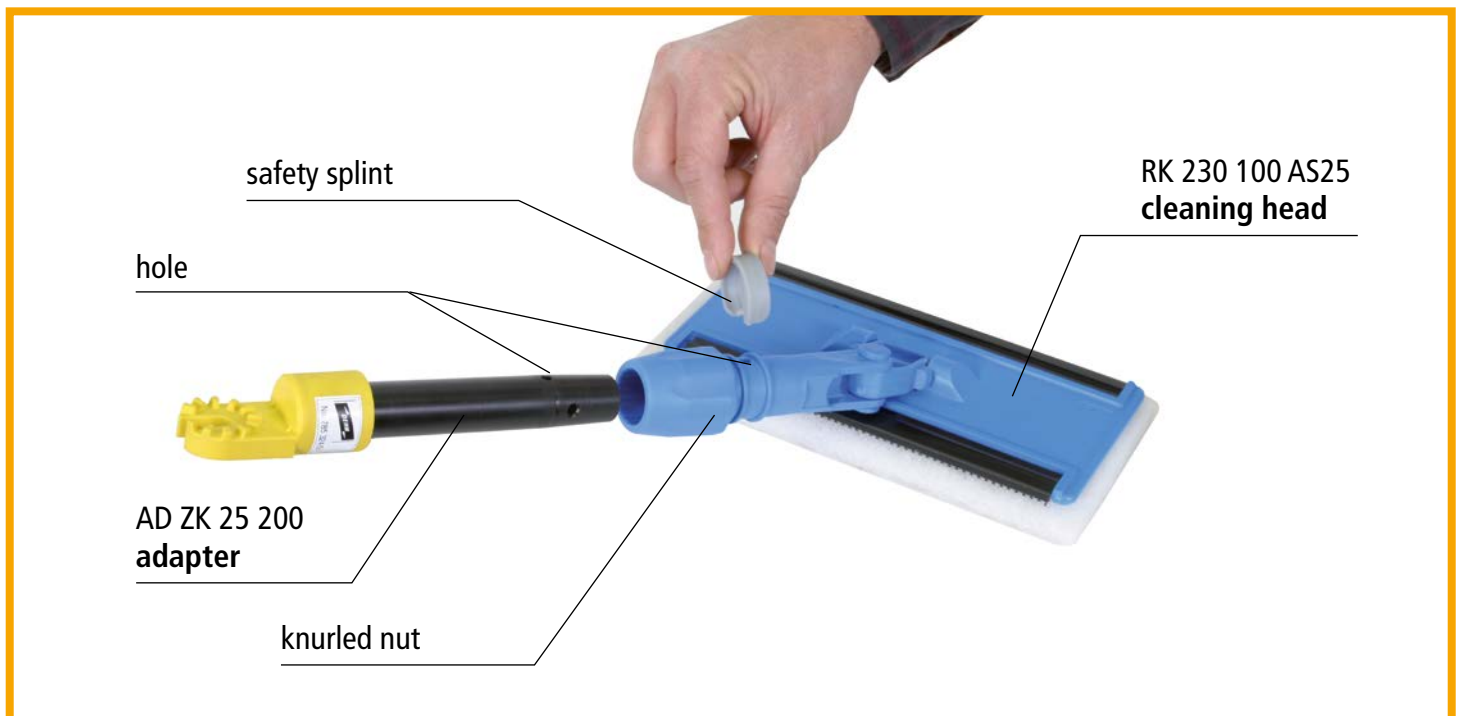

Figure 1 Mounting the cleaning head on the adapter with gear coupling
- ➔ Insert the grey safety splint into the hole and firmly tighten the knurled nut to the **RK 230 100 AS25 cleaning head** (see Fig. 1).